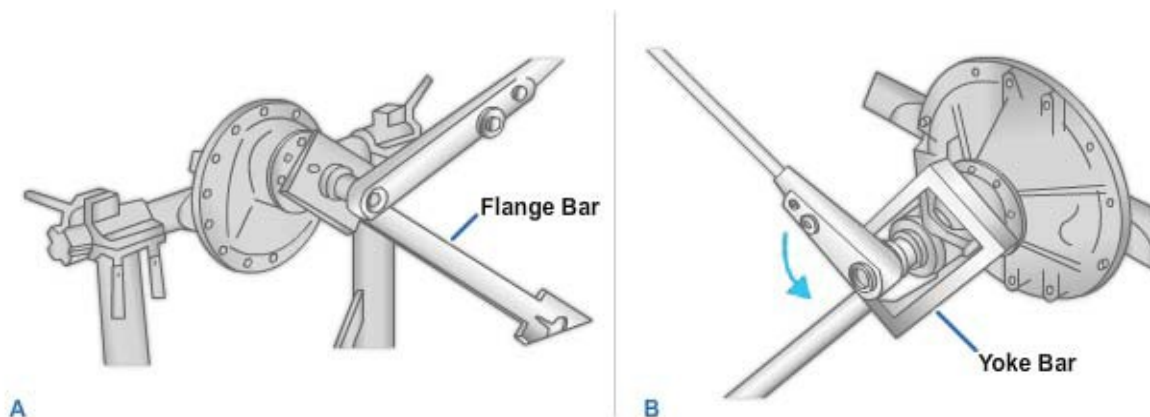

Figure 8-75 – Removing the A input flange or B yoke.
1. Fasten a yoke bar or flange bar to the input yoke to prevent it from turning while you remove the nut (*Figure 8-75*).